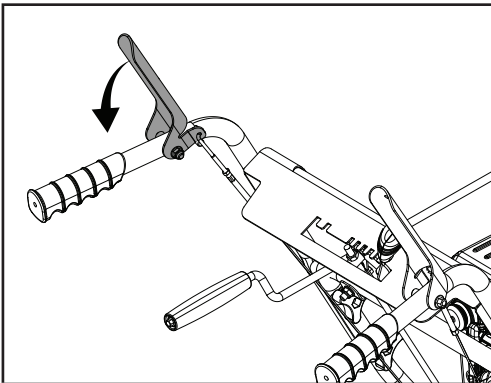

Figure 34
12. Pull the auger control handle to ensure the idler pulley is properly engaging the belt (Fig. 34). Under the belt cover area, make sure the distance on both sides between the guide and pulley is the same.